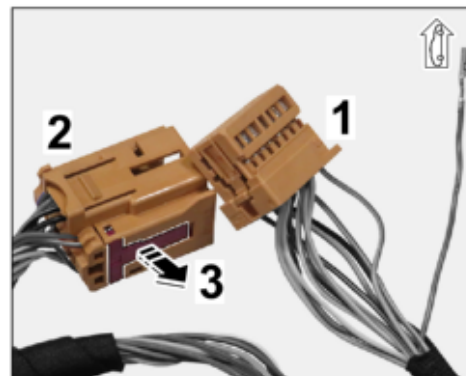

Figure 13
- Insert VT/WH 0.5² line with socket contact into chamber 12. ⇒ *Figure 13 -1-*
2.2.2 Rear cross-over connection point area ⇒ Figure 13
- Repeat Step 2.1.3 for connector, 6-pin (brown) – left side (in direction of travel) for VT/WH; 0.5² line with pin contact. ⇒ Figure 13 -2-